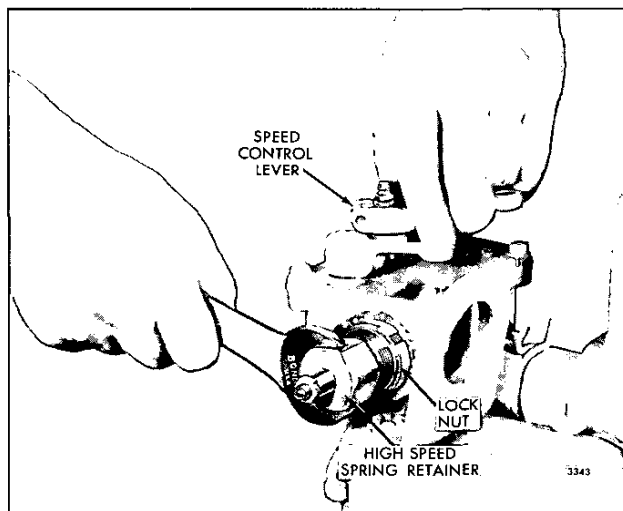

Fig. 6 - Adjusting Maximum No-Load Speed
- Loosen the locknut (Fig. 6) and back off the high-speed spring retainer approximately five turns.